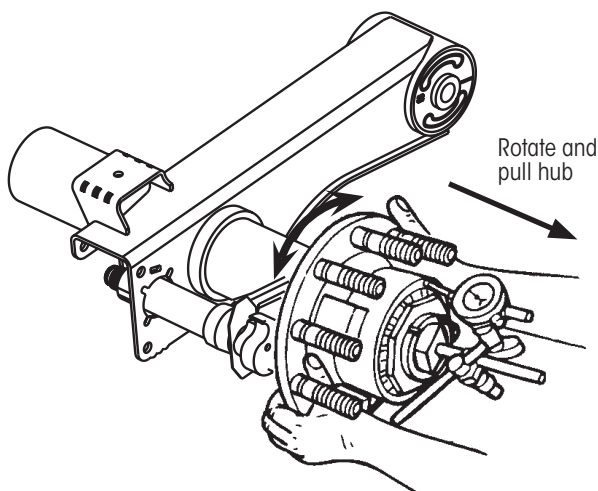

Figure 6: Checking outward end-play
9. While still grasping hub (Figure 6) **pull** hub outward **while rotating** hub slightly in both directions (between two hub cap fastener holes) until dial indicator reading remains constant. **Record** reading.